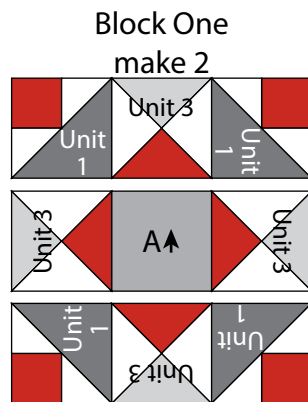

Fig. 5
5. Sew (1) Unit 1 square to each side of (1) Unit 3 square to make the top row. Repeat to make the bottom row. Sew (1) Unit 3 square to each side of (1) $6\frac{1}{2}$ " Fabric A square to make the middle row. Sew together the (3) rows lengthwise to make (1) $18\frac{1}{2}$ " Block One square (Fig. 5). Repeat to make a second Block One square.